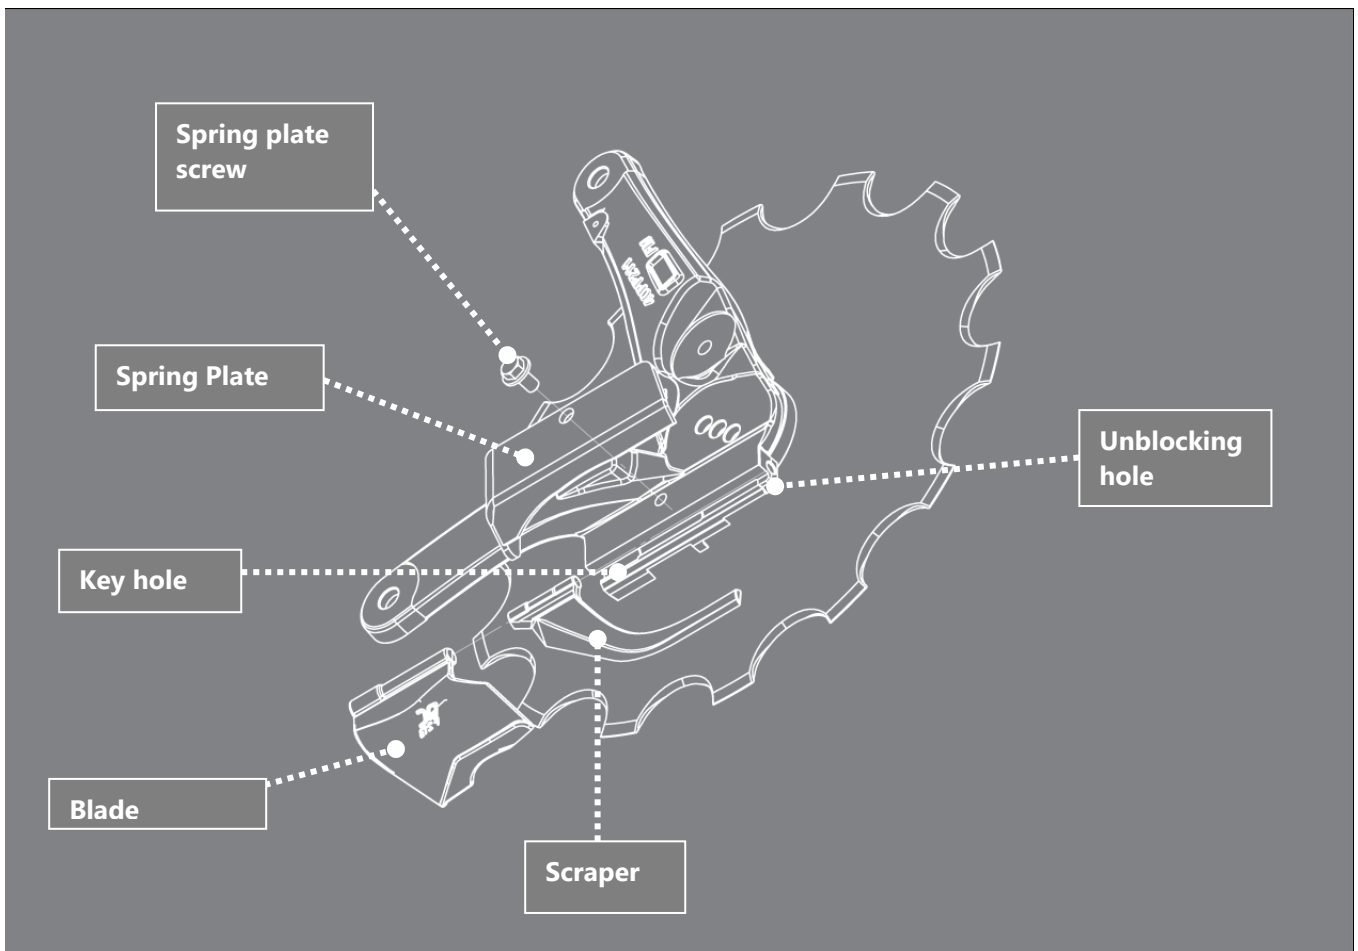

Fig. 32 : Blade and scraper mounting
- Compensation for disc wear: with wear, the disc diameter decreases and it is important to mount it to a lower hole to avoid the lower part of the blades being below from the notches (see fig. 32 – Page 39).